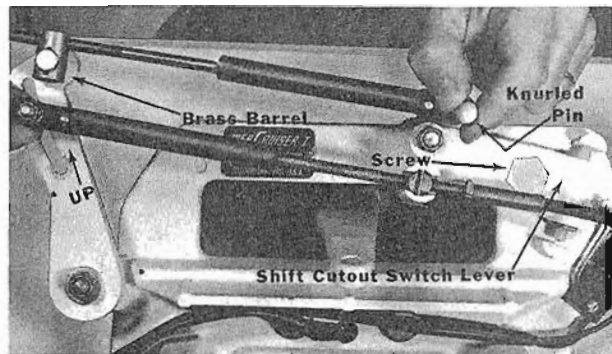

Figure 5. Locating Guide & Anchoring Cable
- h. Move end guide of stern drive shift cable up slot in shift lever until knurled pin in cable end guide of remote control shift cable can be reinstalled. (Figure 5)
*NOTE: Remove screw and washers which previously were installed thru shift cutout switch lever. (Figure 5)*
*NOTE: Remove screw and washers which were previously installed thru shift cutout switch lever. (Figure 5)*